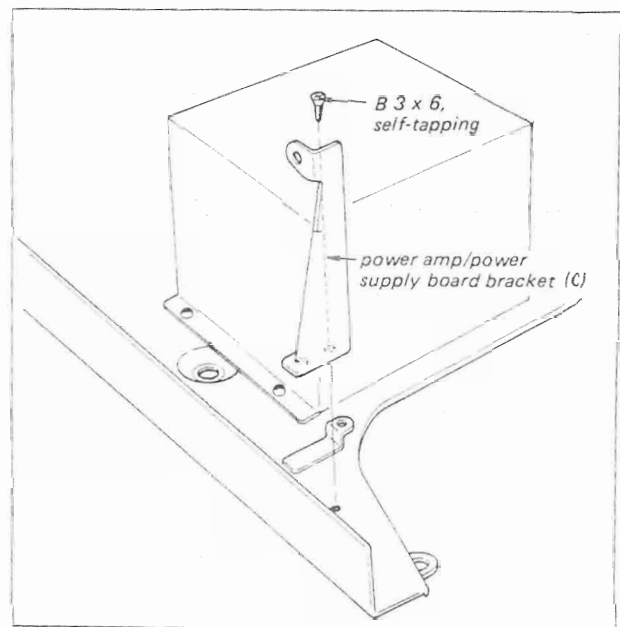

Fig. 2-11. VOLUME control replacement
2. Remove the power amp circuit board bracket (C) located near the front subchassis by removing the screw shown in Fig. 2-11.